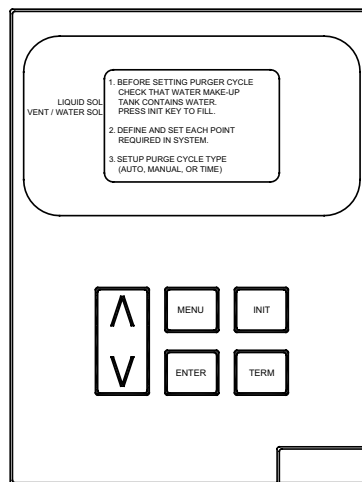

Figure 9: Control Panel - Displaying Initial Startup Screen
13. Supply power to the purger and wait for the start up screen to display. Follow the instructions on the display screen and familiarize yourself with the control panel's interface, see Figure 9.